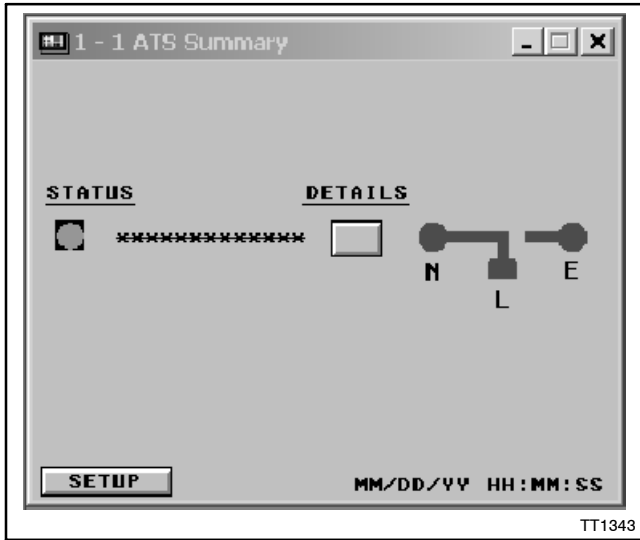
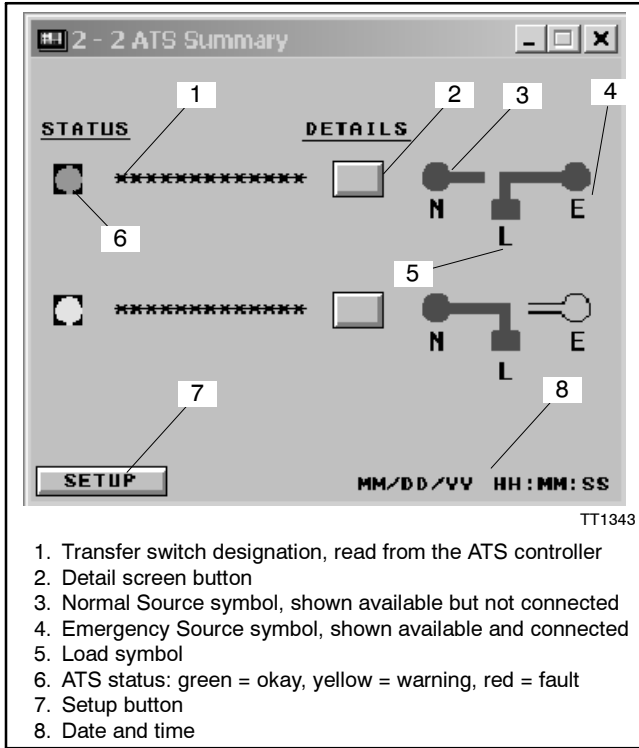
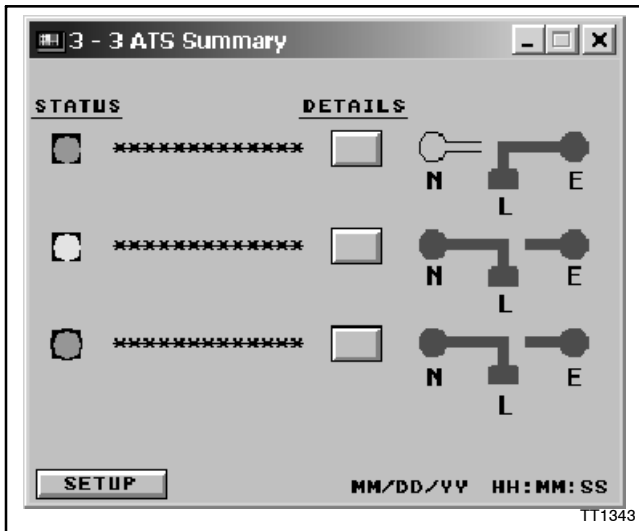
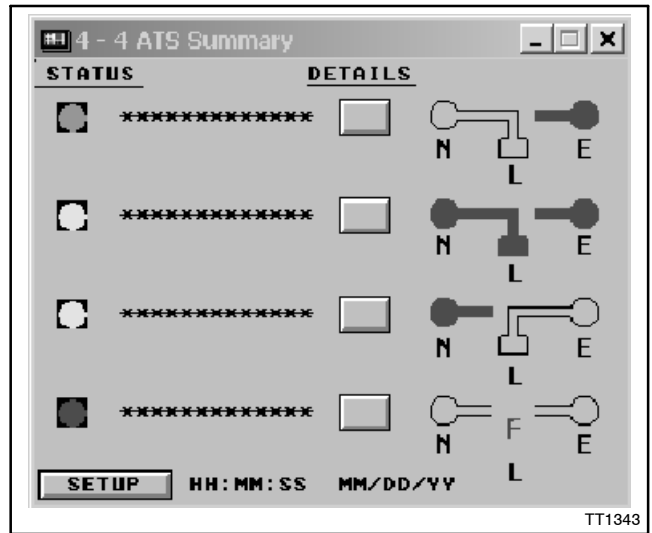

Figure 10 Summary Screen, One ATS
Figure 13 Summary Screen, Two Transfer Switches
Figure 14 Summary Screen, Three Transfer Switches
Figure 15 Summary Screen, Four Transfer Switches
- At initial startup, the annunciator assumes that one transfer switch is connected. The annunciator goes through an automatic startup sequence and then a summary screen similar to that shown in Figure 10 appears.
13. Verify that the Summary Screen now displays the status of each connected transfer switch. See Figure 13, Figure 14, and Figure 15.
The Summary Screens show the following information for each transfer switch. See Figure 10, Figure 13, Figure 14, and Figure 15.
If there is no solid line from the load symbol to either source and the letter F is displayed between the source symbols, a fault is indicated. The contactor position is unknown. Refer to the transfer switch literature to diagnose and correct the fault. See Figure 15 for an example of a status screen indicating this type of fault.